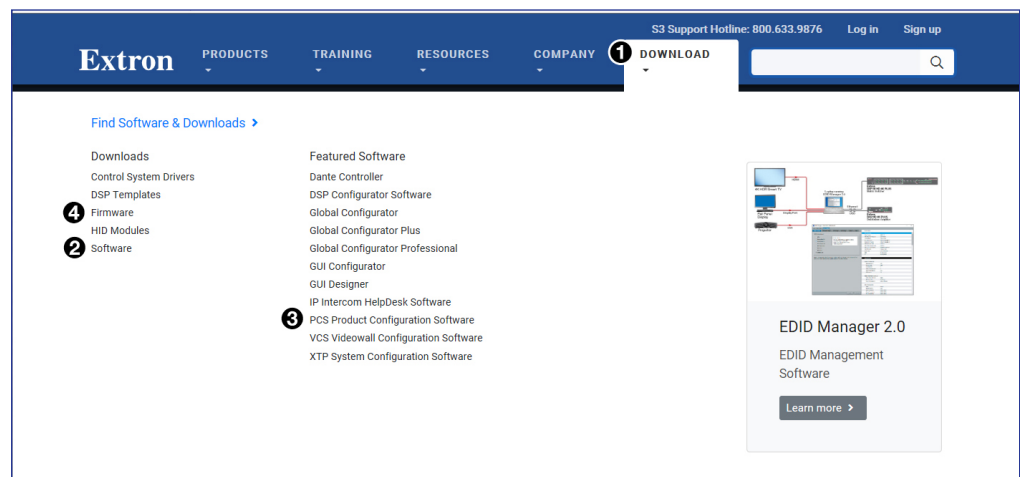

Figure 25. Software Links on Download Screen
1. Mouse over the **Download** link at the top of the page (see figure 25, **1**).